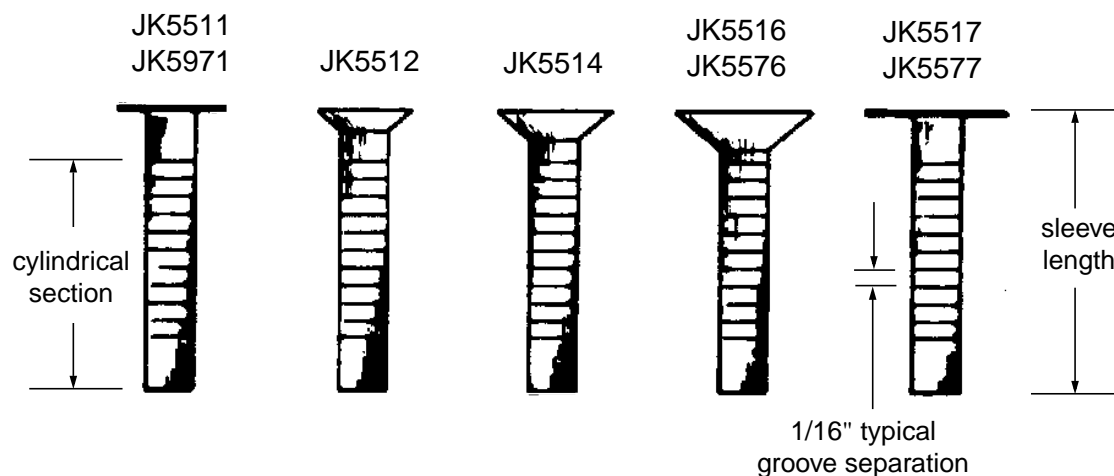
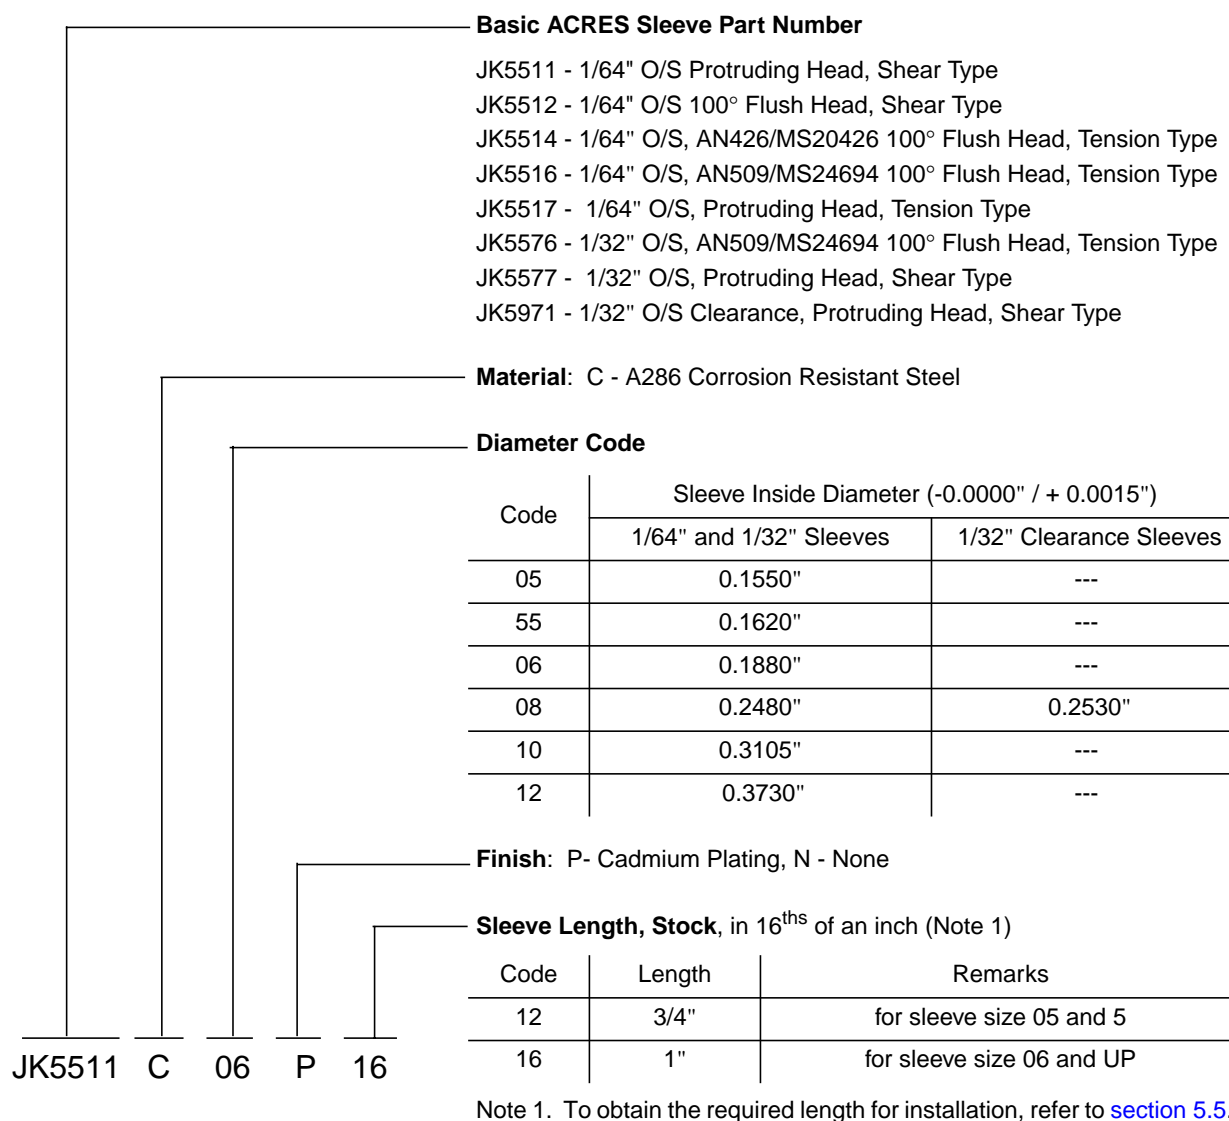

Figure 1 - General Description of ACRES Sleeves
Figure 2 - ACRES Sleeve Part Number Breakdown
- 4.1.2 ACRES sleeves as specified in Table 2. Refer to Figure 1 for general description of ACRES sleeves and to Figure 2 for a breakdown of ACRES sleeves part numbers.
4.2.1 ACRES sleeve preparation, installation and removal tools (e.g., as shown in Figure 2).